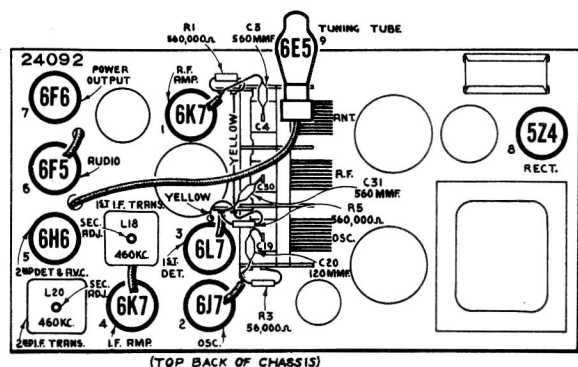

Figure 1—Radiotron and I-F Trimmer Locations
- (c) Adjust the two magnetite core screws **L20** and **L19** (see figures 1 and 7) of the second i-f transformer (one on top and one on bottom) to produce maximum vertical deflection of the oscillographic image. This adjustment places the transformer in exact resonance with the **460-kc** signal.
- (b) Adjust the two magnetite core screws L20 and L19 (see figures 1 and 7) of the second i-f transformer to produce maximum (peak) output.